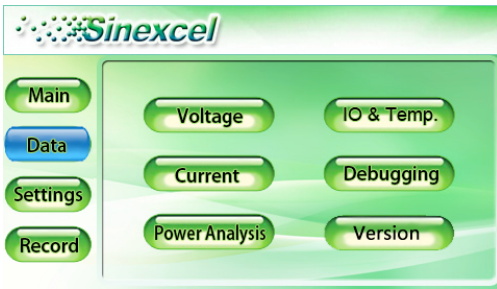

Figure 5-3 Main interface of data
- ◆ Click “Data” on the main menu and enter the main interface of data, as shown in Figure 5-3;
- ◆ Click “Voltage” in Figure 5.3 to check the waveform and spectrum of grid voltage,